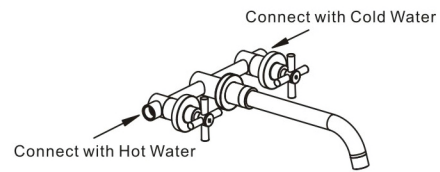

Figure 3
3. Fix the main body of the faucet to the wall and connect with the cold and hot water supply pipe. Facing to the faucet, the inlet hose on the left side is connected to hot water while the inlet hose on the right side is connected to cold water (Figure 3).
4. Place the decorative cover subassembly, the handle subassembly and the spout subassembly separately to the main body of the faucet. The handle marked with H is installed on the left side while the handle marked with C is installed on the right side (Figure 3)